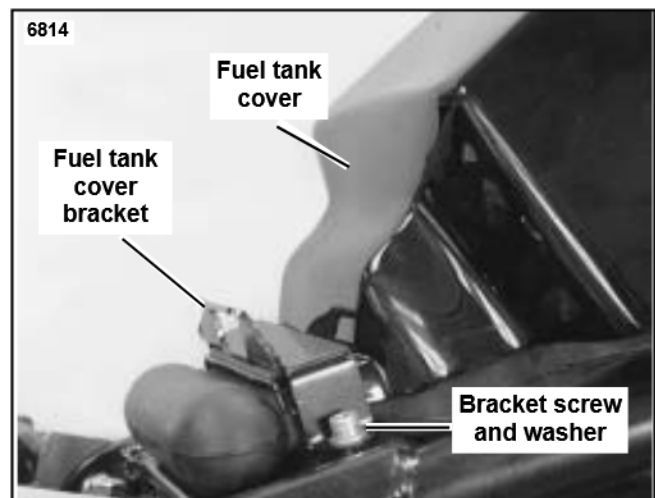

Figure 2. Fuel Tank Cover Bracket
3. See Figure 2. Remove two fuel tank cover bracket screws and washers. Remove bracket.
11. See Figure 2. Position fuel tank bracket over fuel tank cover (with nylon portion of mask sandwiched between). Tab on bracket must face toward the rear wheel. Install two screws and washers. Tighten screws to 9-11 ft-lbs (12.2-14.9 Nm).